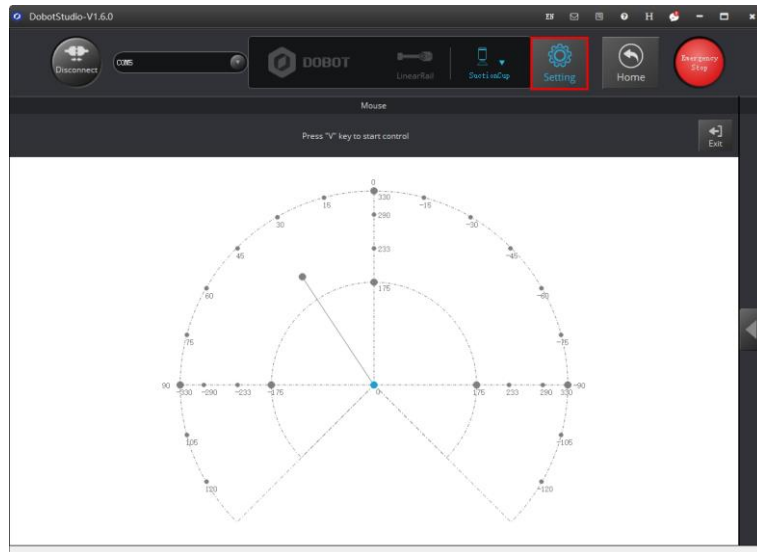

Figure 5.113 Click Setting
Step 3 Click **Setting**, as shown in Figure 5.113.